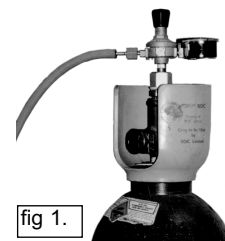

fig 1.
(UK only - see diagram figure 1). **Ensure the unit is correctly earthed via a three-pin plug.**
- 3.2.2. Fit the gas regulator on the Bull Nose Adaptor and connect it to the machine gas hose (fig.1).